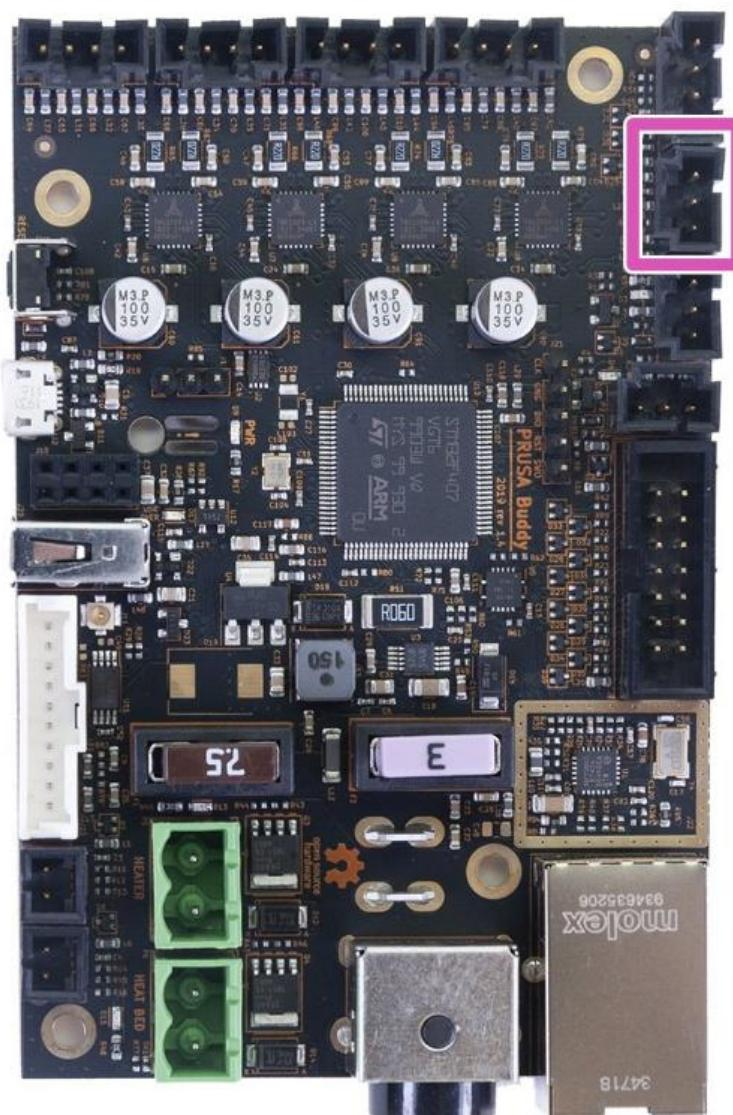

Figure 5.2.2
**A:** As shown in Figure 5.2.2. Connect the filament sensor cable to the Buddy board.